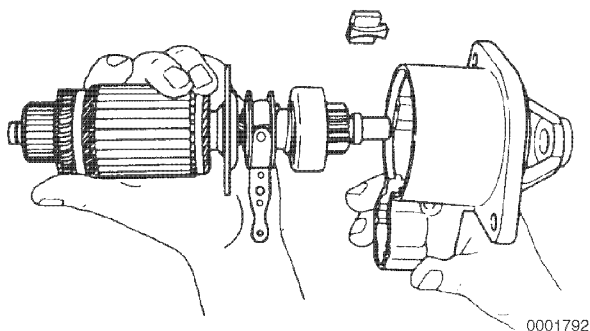

Figure 8-31
5. Install the armature and pinion assembly into the pinion housing (**Figure 8-31**).